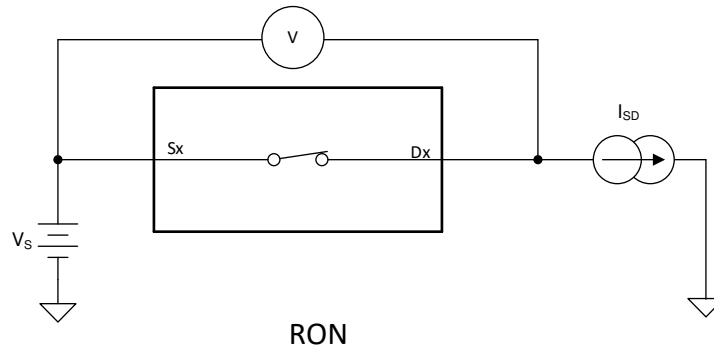

Figure 8-1. On-Resistance Measurement Setup
The on-resistance of a device is the ohmic resistance between the source (Sx) and drain (Dx) pins of the device. The on-resistance varies with input voltage and supply voltage. The symbol R_{ON} is used to denote on-resistance. Figure 8-1 shows the measurement setup used to measure R_{ON} . Voltage (V) and current (I_{SD}) are measured using this setup, and R_{ON} is computed with $R_{ON} = V / I_{SD}$: